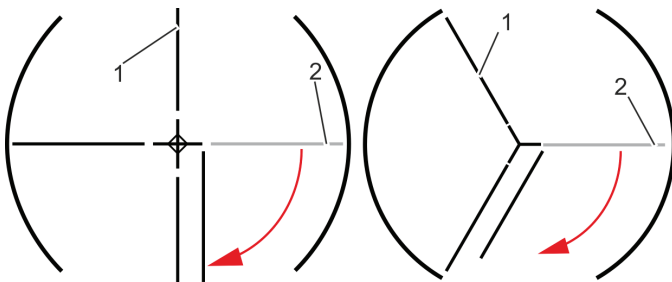

Fig. 44 Releasing the wing (four and three wings)
2. Carefully orient the wing manually (Fig. 44/3) as shown in Fig. 44.
3. Release the stop on the wing (Fig. 44/3) by turning the knob on the fitting (Fig. 44/2) to the side.
Have one person hold the wing at the entrance (Fig. 44/1).
5. Move the wing (Fig. 44/2) in the direction indicated by the arrow, as shown in Fig. 44.